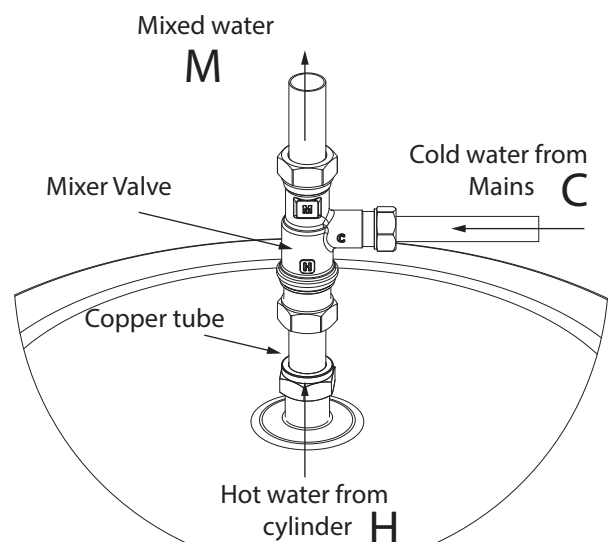

Figure 4: Mixing Valve layout
- ▶ The mixing valve should be installed at the hot outlet point of the appliance using the copper tube supplied, (see figure 4). The mixing valve will reduce the hot water outlet temperature to approx 55°C, further temperature control will be required for outlets such as showers and baths